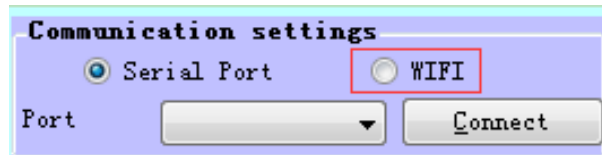

Figure 3.6: Click WIFI
- (4) Click WIFI in the communication setting, as shown in figure 3.6.